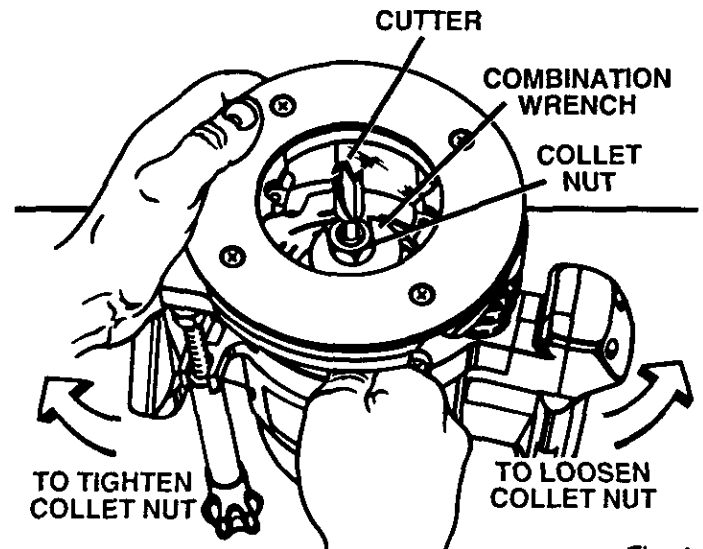

Fig. 4
- Place 15/16 in. wrench provided through back of router base onto collet nut and turn counterclockwise to loosen. See Figure 4.
- Tighten the collet nut securely by turning with the wrench provided. *See Figure 4.*